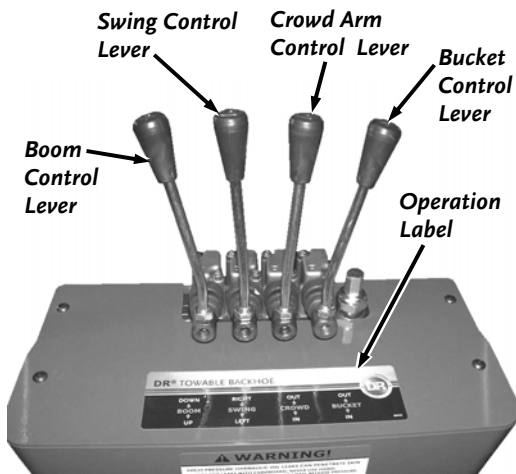
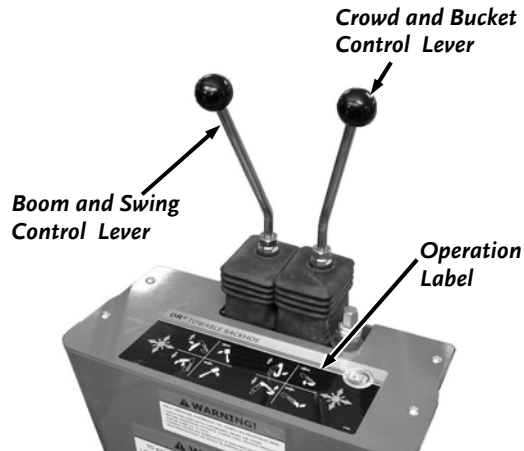

Figure 6
Figure 7
1. Familiarize yourself with all of the Control Levers (**Figure 6**) and all of their functions by studying the Operation Label before operating the Backhoe. Figure 7 shows the Joystick option.
NOTE: Refer to Figures 6 and 7 for Control Lever functions. Adjust the Throttle to just above idle for this procedure to improve control (slower movement).
It is not difficult (but it does take practice) to become an efficient operator. A control lever operating decal is located just under the control levers. Study this decal; it will help you become familiar with the controls. See Figures 6 and 7 for control locations and functions.